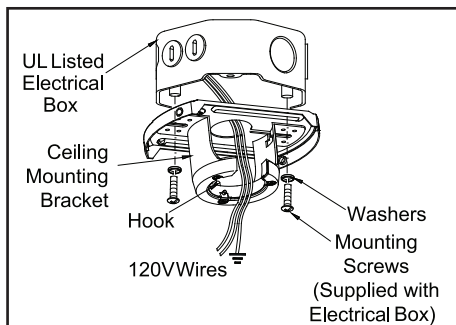

Figure 8
1. Pass the 120-volt supply wires through the center hole in the ceiling mounting plate as shown in Figure 8.
2. Install the ceiling mounting bracket on the electrical box by using the mounting screws provided with the electrical box. Note that the flat side of the mounting plate is toward the electrical box. (Figure 8)